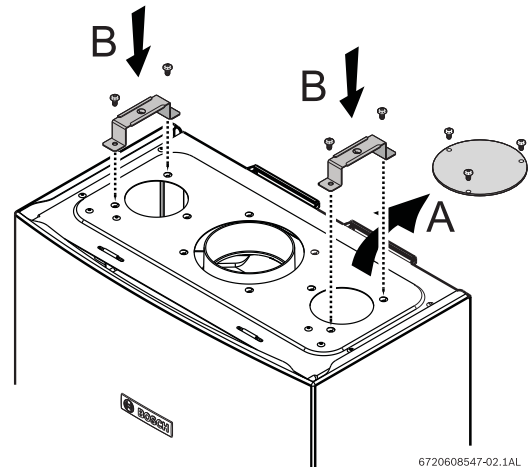

Fig. 4
- **1.** Remove the cover plate (A) from the top of the appliance, as shown in Fig. 4.
- **2.** Attach the supports (B) to the appliance with the four provided screws, as shown in Fig. 4.